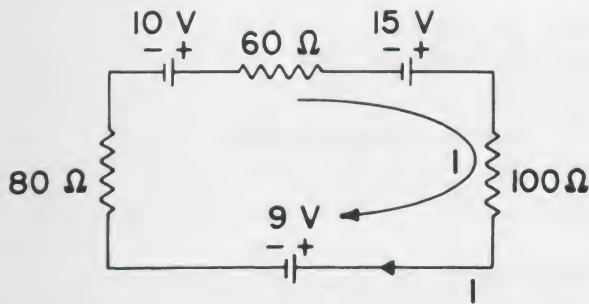

Figure 39.
**Example 7.** Calculate the current  $I$  in the circuit shown in Figure 39.